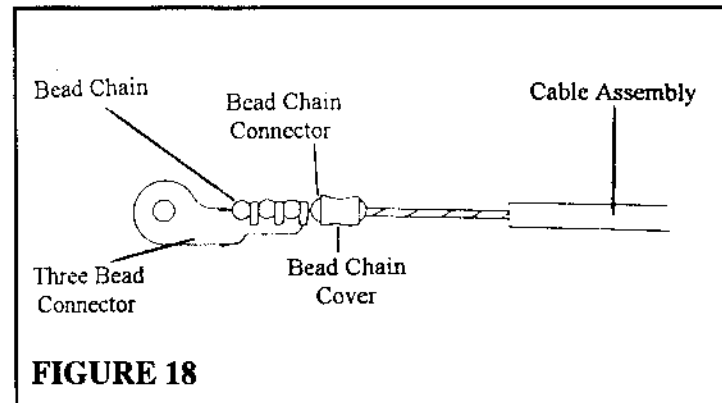

FIGURE 18
5. When the **Three Bead Connector** is properly used, the following parts will be used: (Figure 18)